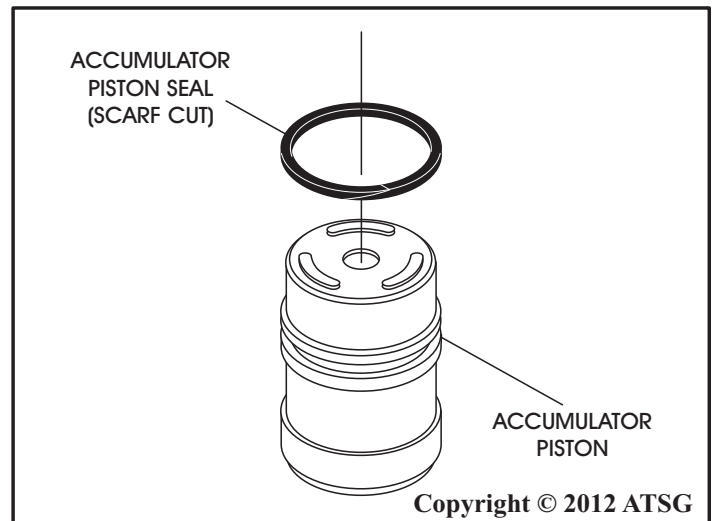

Figure 59
15. Remove and discard all accumulator piston seal rings, as shown in Figure 59.